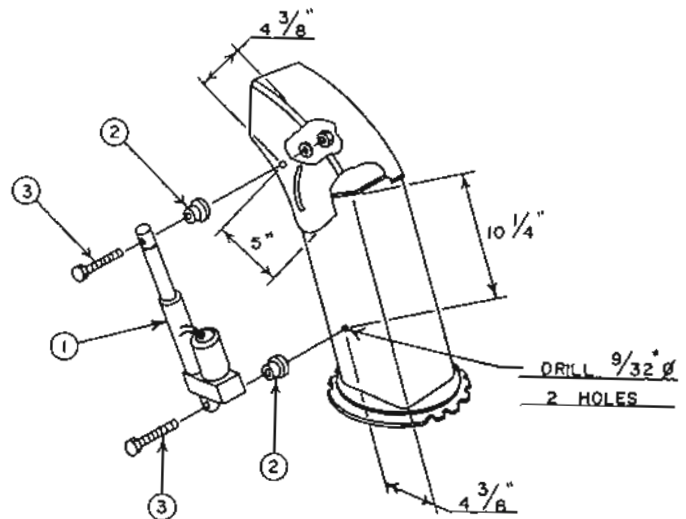

FIGURE 19
- b) Drill two 9/32" dia. hole in chute and deflector as shown in figure 19. This should be done on the side opposite the rotation worm gear.
- c) Attach actuator (fig.19, item 1) to the deflector and the chute with two 1/4" x 2 1/4" bolts (fig.19, item 3), two bushings (fig.19, item 2), two flatwashers on the inside, two lockwashers and two nuts. Place bolts in the actuator and thread the bushings on the bolts so that the bolts do not protrude through the nuts when the nuts are tightened.